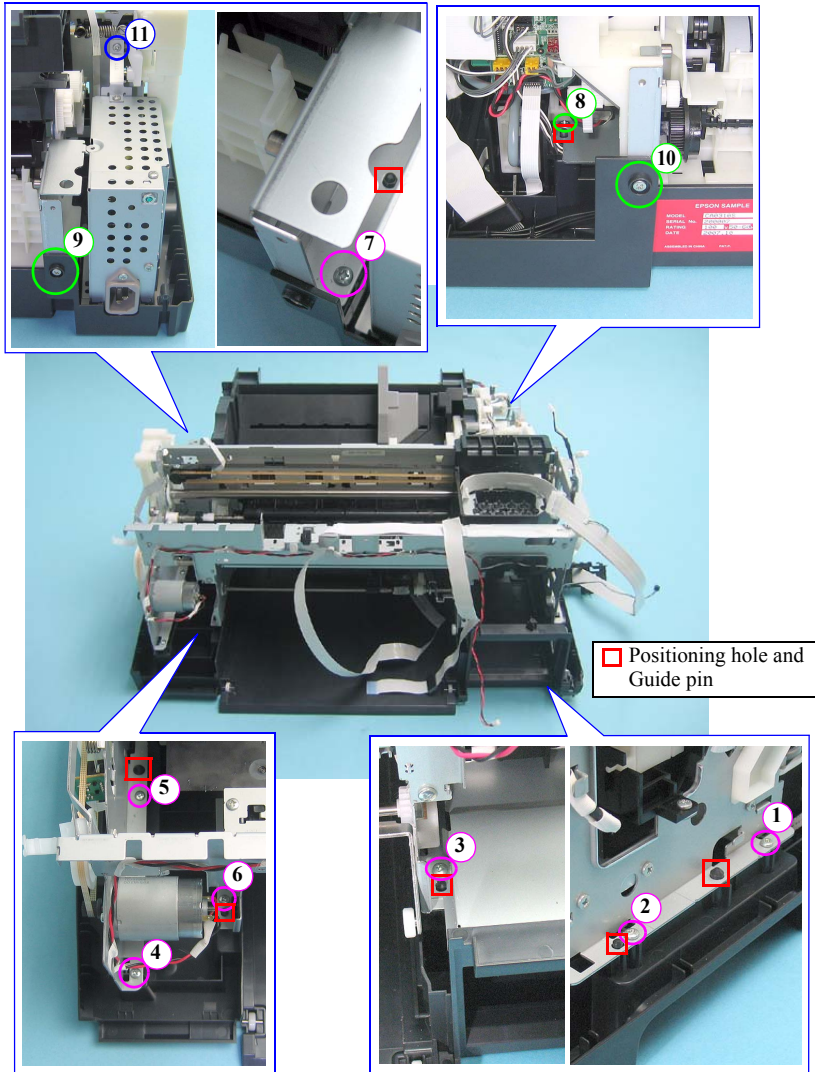

Figure 4-102. Removing the Lower Housing (1)
- Insert the seven guide pins of the Lower Housing into the holes of the Printer Mechanism shown in *Figure.4-102*.
- Tighten the screws in the order indicated in *Figure.4-102*.